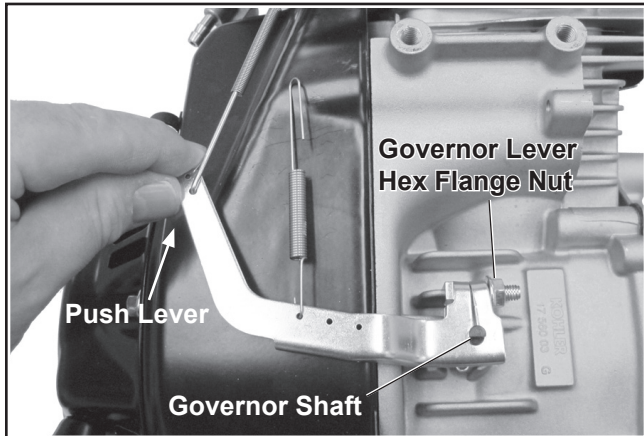

Figure 23. Governor Lever Adjustment.
1. Loosen the governor lever hex flange nut. Push and hold the governor lever in the direction indicated in Figure 23. Continue holding in this direction throughout this procedure. Turn the governor shaft clockwise until it stops. Tighten the hex flange nut on the governor lever clamp bolt to lock the lever on the shaft. Torque the nut to 10 N·m (89 in. lb.).